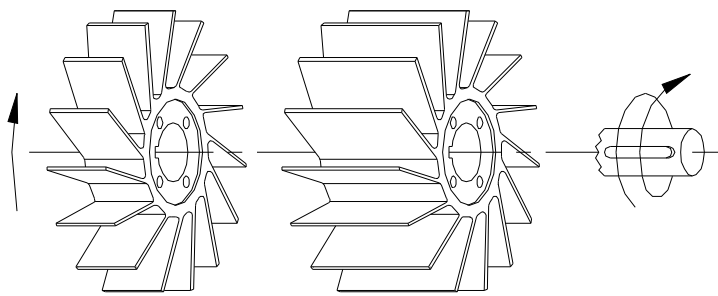

Fig. 24 - Pumps series TRH
- 6) Place the pump in the vertical position resting it on the face of the bearing housing. Insert on the shaft the keys VDMA 940.1 (.2) of impeller VDMA 230 (.1) depending upon the pump series. Place on discharge casing VDMA 107 three (3) small paper spacers having 0.1 mm thickness (impeller spacers that will be discarded as soon as the pump starts rotating). With a brush or similar tool apply the Loctite product "SUPERBOND 320" or similar glue on the shaft area where the 2nd stage impeller will be placed. Slide on the shaft the 2nd stage impeller VDMA 230.1 making sure the impeller blades point to the direction of the pump clockwise rotation as indicated on the schematics fig 24 or 25 (for special constructions, with counter clockwise rotation, mount the impeller with the blades pointing to the opposite direction).
WARNING: Before inserting the impellers on the shaft, note that the direction of the blades for the pumps with c.w. rotation should be as per drawings on fig. 24 or 25 (for the c.c.w. rotation, reverse the orientation of the impeller blades).